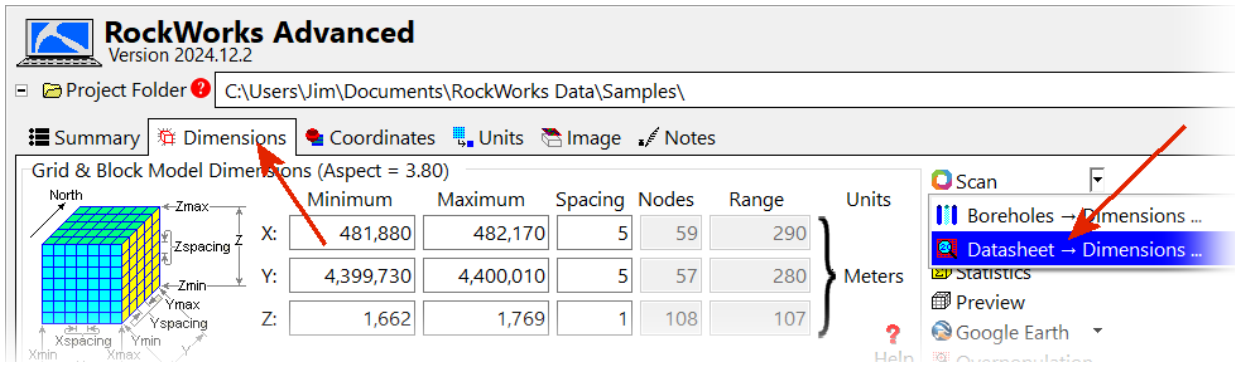

Figure 16
- Select the Dimensions / Scan / Datasheet option (Figure 16).